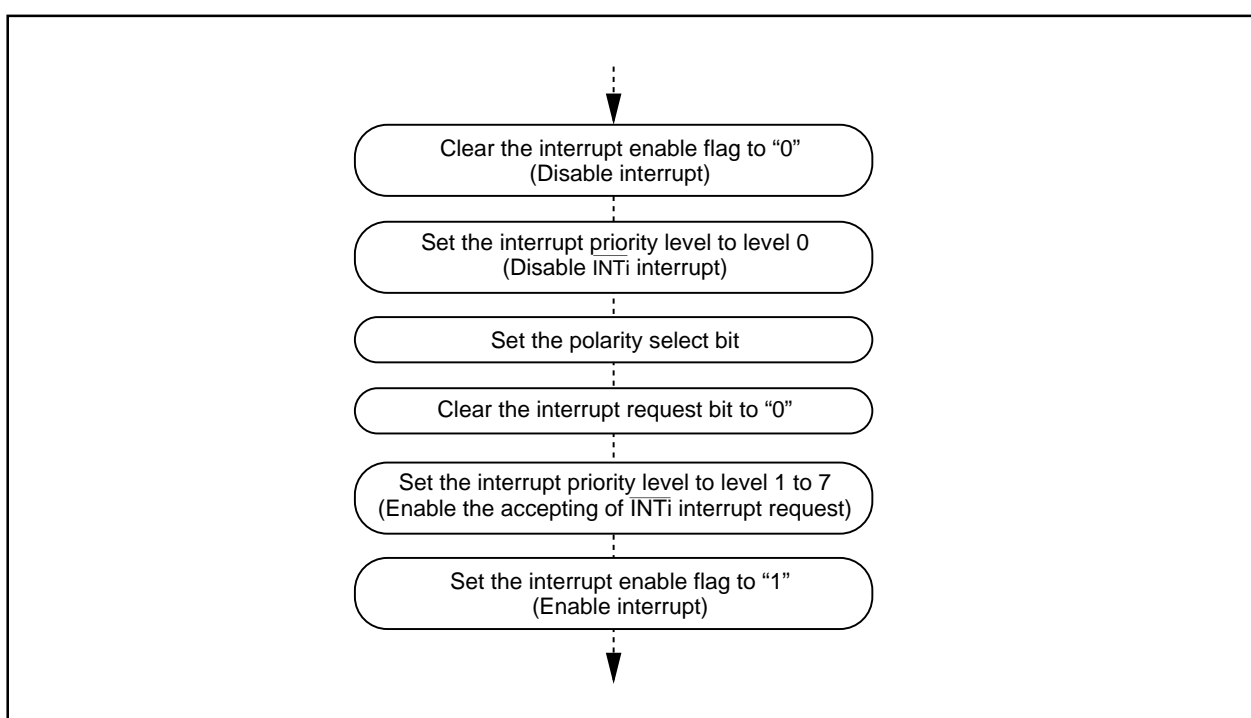

Figure 1.33. Switching condition of $\overline{\text{INT}}$ interrupt request
(2) Setting the stack pointer
(3) External interrupt
- When changing a polarity of pins $\overline{\text{INT0}}$ and $\overline{\text{INT1}}$, the interrupt request bit may become "1". Clear the interrupt request bit after changing the polarity. Figure 1.33 shows the switching condition of $\overline{\text{INT}}$ interrupt request.